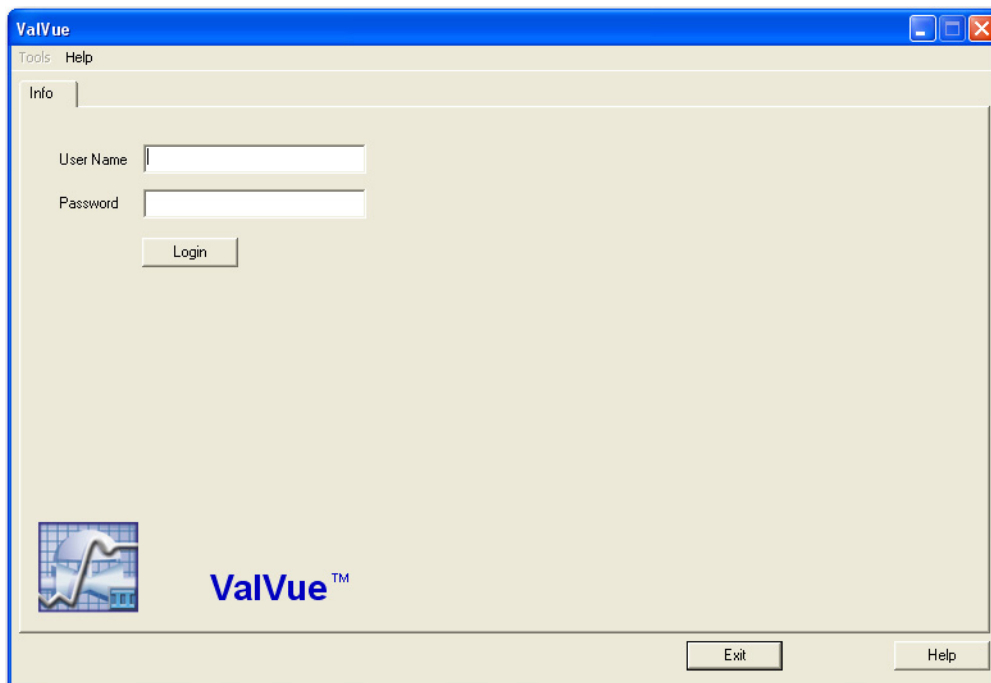

Figure 54 ValVue Login
4. Click **OK** and Figure 54 appears.